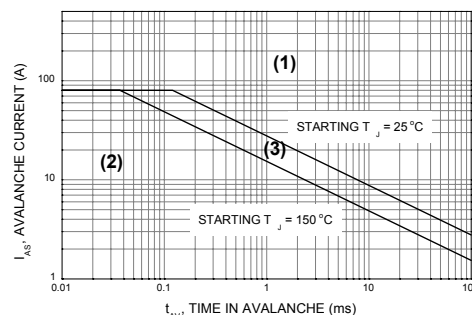

Figure 3. UIS Capability, FDP050AN06A0
The UIS Rating System is very useful in dealing with avalanche situations. There are three areas in the UIS SOA graph as indicated in Figure 3 : (1) above and right of the 25°C line, (2) below and left of the maximum junction temperature line, (3) in between the two lines. (1) and (2) are easy to determine: the device is within the UIS rating ((2)), or beyond the rating ((1)). But the junction temperature of the Power MOSFET at the start of the UIS pulse is required to determine (3). The junction temperature analysis methods will be discussed later in detail.